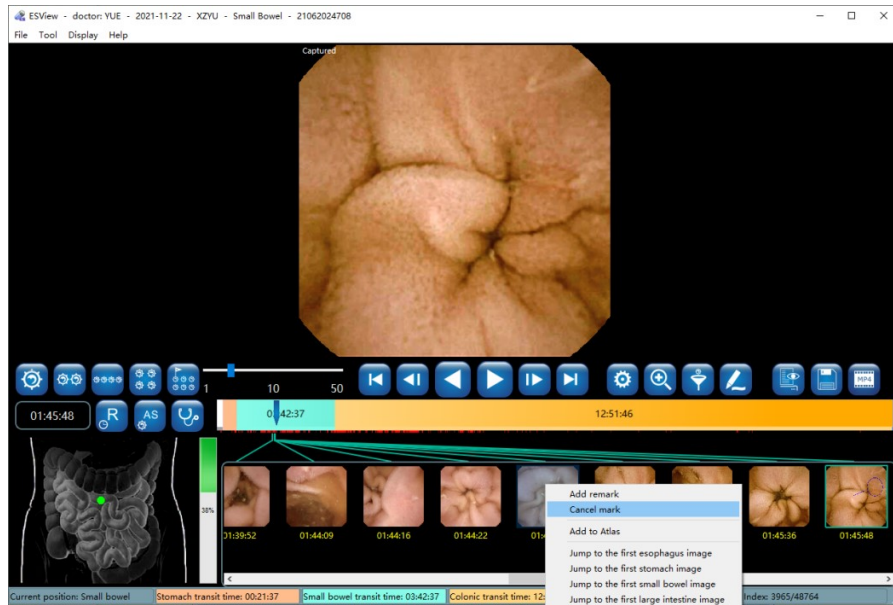

Figure 4-30: Thumbnail “Cancel Mark”
3. In the thumbnail display area, right click on a thumbnail, then select “Cancel mark” in the pop-up menu to remove the thumbnail from the thumbnail area, as shown in Figure 4-30. Multiple thumbnails can be removed together by left clicking the thumbnails to be deleted while holding down the Ctrl key or by holding down the left mouse button and dragging the mouse to select multiple thumbnails, and then right clicking to select “Cancel mark” from the